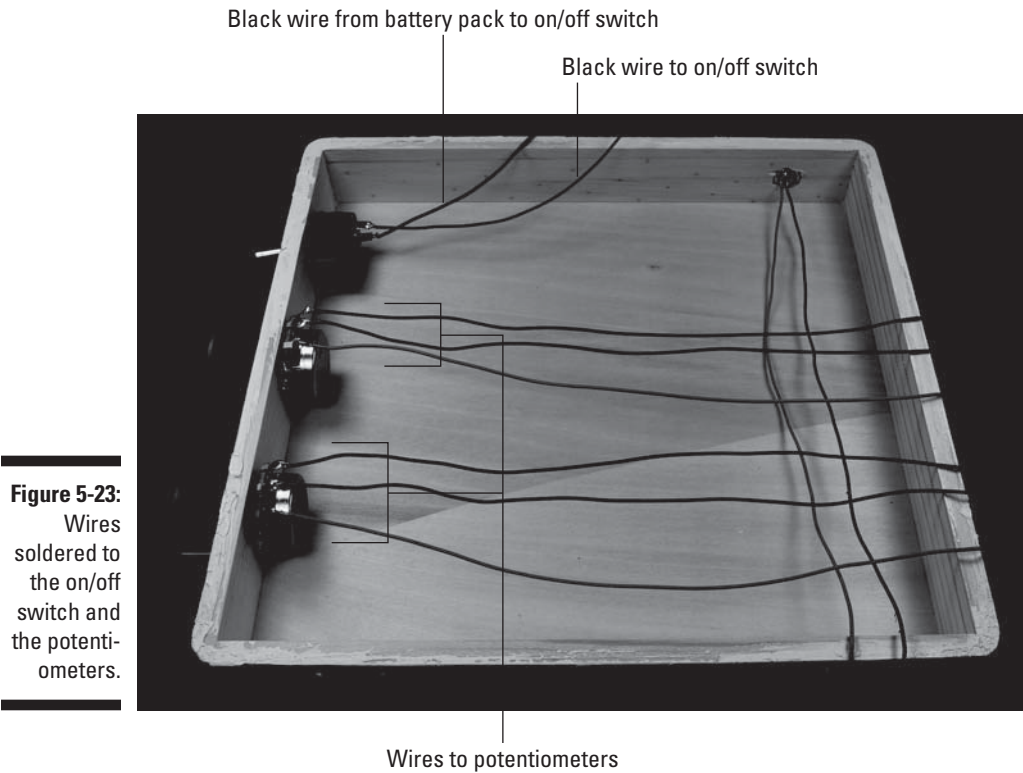

Figure 5-23:
- 7. Solder 12" black wires to each of the three potentiometer lugs, as shown Figure 5-23.**
Figure 5-23 shows the switch after the wires are soldered.